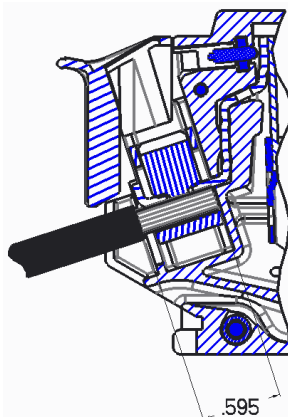

Figure 3: Stripped wire installed
6. Wire the circuit breaker to be used as main. Fig. 3
After stripping the wires to the required length, the wires can be installed as shown in Figure 3. The service barrier must be correctly installed to maintain electrical isolation from accidental contact. Torque the wires according the torque specification on the breaker.